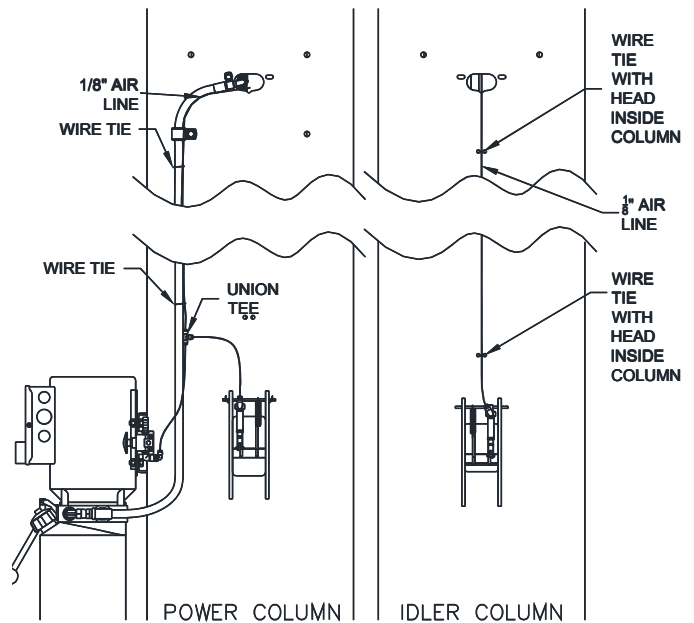

Fig. 17 – Lock Release
- 52) Connect the rest of the 1/8" air line to the top of the tee and run it along side the hydraulic hose up the column and across the overhead attaching it to the hydraulic hose with wire ties (**Fig 17**).
and attach it to the idler side lock release air cylinder (**Fig. 17**).